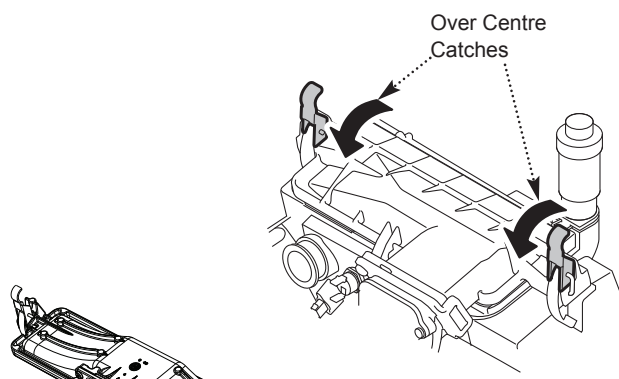
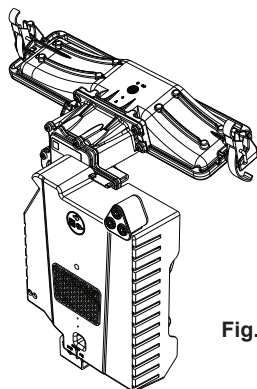

Fig. 38a
Fig. 38b
10. Remove the gas assembly (Fig. 38b) from the boiler by releasing the over-centre catches (Fig. 38a) that secure it to the heat exchanger.